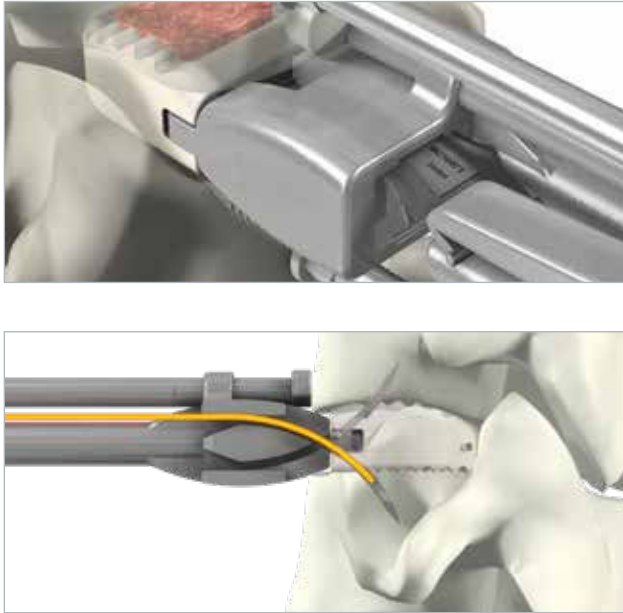

Figure 12
- With the implant in the final position, load the first plate into the cranial slot of the implant holder using the plate holder (MC901R). The plate paths cross within the implant holder so the plate inserted into the cranial slot will be advanced into the caudal vertebral body (Figure 12).